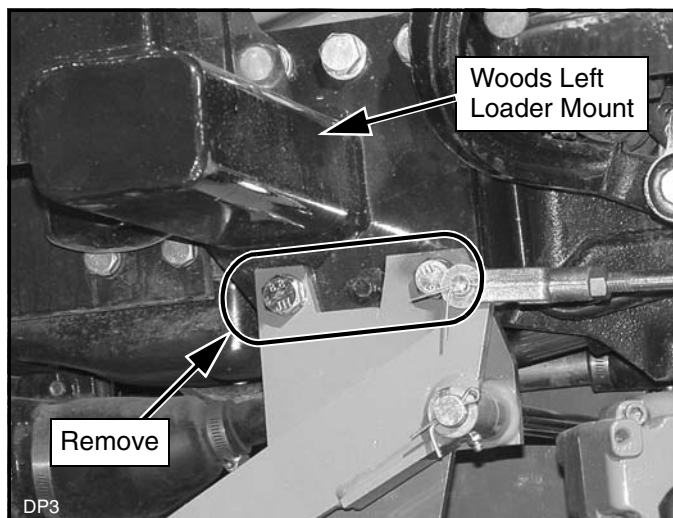

Figure 4. Remove Hardware - Left Side Shown
1. Remove two bolts connecting right and left loader mount/mid-mount mower bracket to the tractor frame. See Figure 4.
2. Attach left front mount (9) to tractor using two cap screws (24) and hardened flat washers (29).
3. Attach right front mount (8) to tractor using two cap screws (25) and hardened flat washers (29).